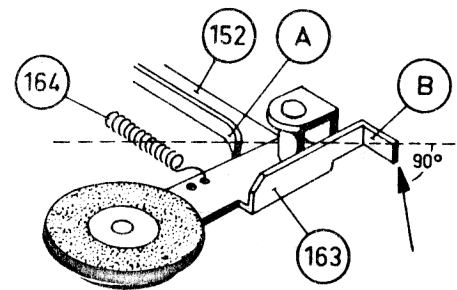

Fig.3
10. The force measured on the intermediate wheel bracket according to Figure 3 must range from 100 to 140 grams.